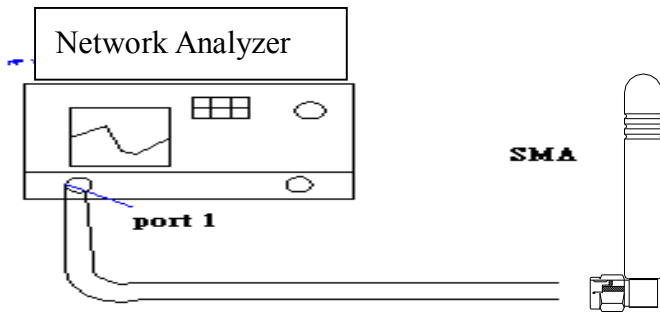

Fig.1
- (I) Calibrate the Network Analyzer by one port calibration using O.S.L calibration kits.
- (II) Connect the antenna under test to the Network Analyzer.
- (III) Measure the S11(reflection coefficient) shown in Fig. 1.
- (IV) Generally, the S11 is less than -10dB to ensure the 90% power into antenna and only less than 10% power back to system.